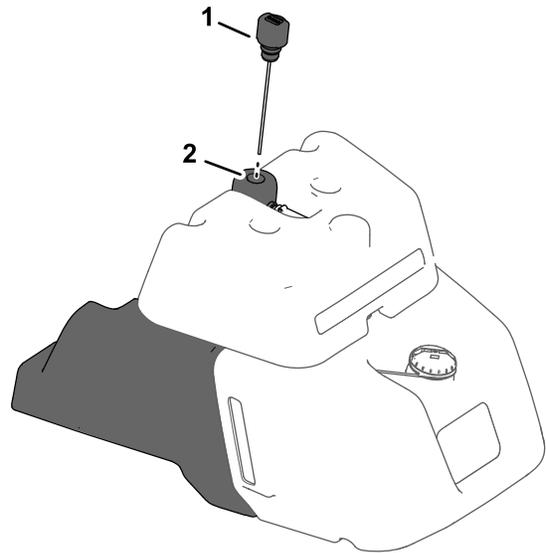

Figure 35
- If your machine has a fuel sight gauge at the side of the fuel tank, locate the dipstick for the hydraulic system at the top of the hydraulic tank (Figure 35) and proceed to step 5.